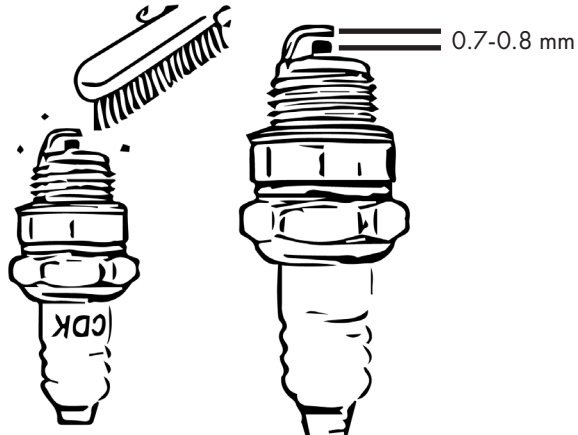

Figure 28
- Remove the deposits on the spark plug. See Fig. 28.
- Set the electrode gap to a target value of 0.7-0.8 mm. See Fig. 28.